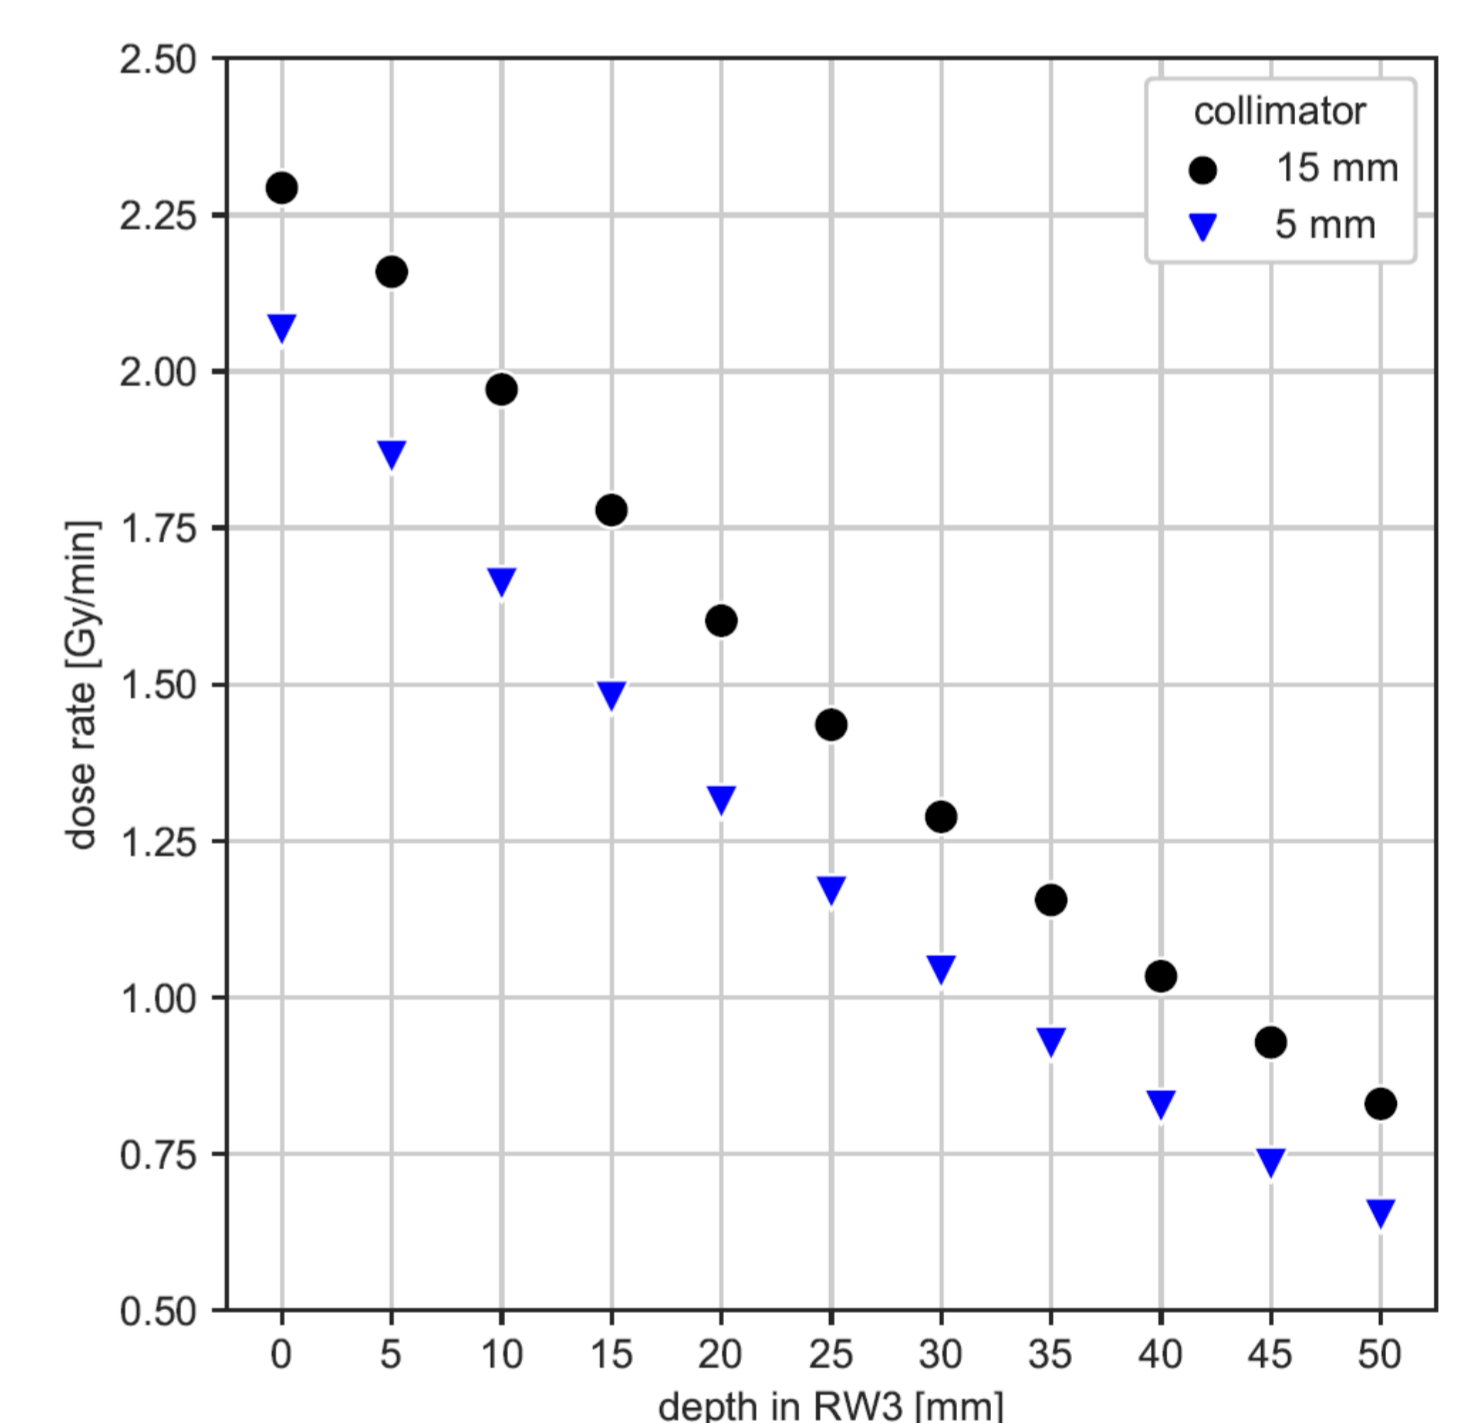

Figure 5: X-ray dose rate measured in RW3 using 5mm and 15mm secondary apertures
- Sufficient dose rate to guarantee fast irradiation in a convenient distance from the beam outlet (Figure 5)